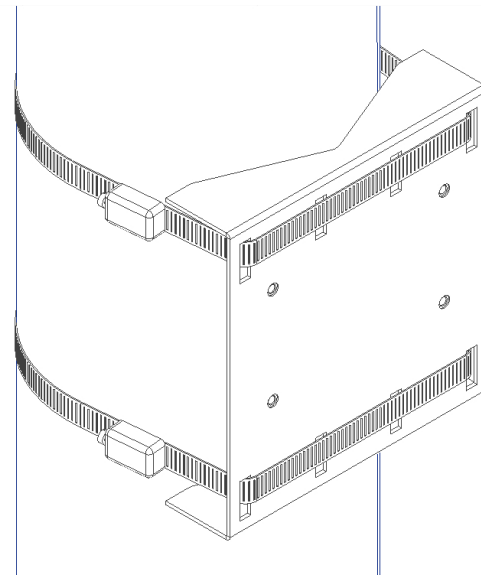

Figure 1 - Pole Mounting Bracket
Step 1 – Slide the Worm Gear Clamps through the slots of the Pole Mount Bracket, and fasten the clamps around the pole (Figure 1). Note, the included clamps only work for poles ranging from 5 inches to 9 inches diameter.